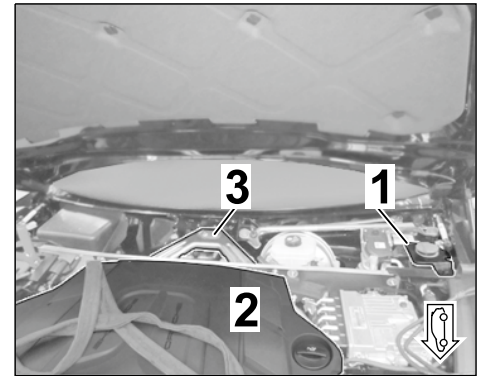

Figure 7
- 1.3 Expose plenum panel area (⇒ *Figure 7*)